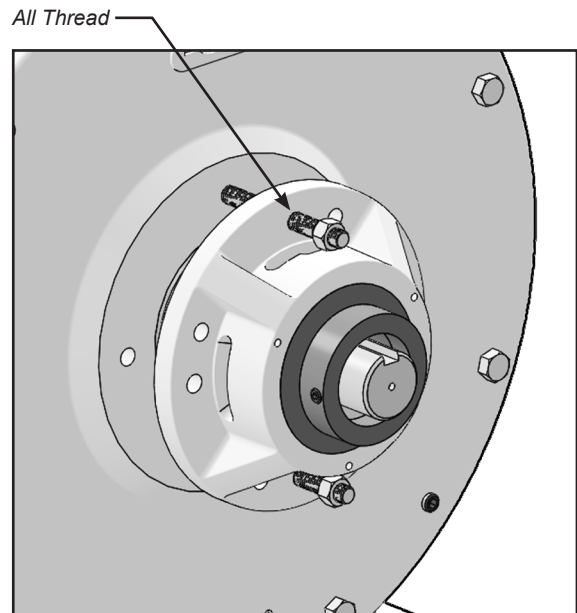

FIGURE 29
24. Install all thread rod and nut into opposing holes (Figure 29).